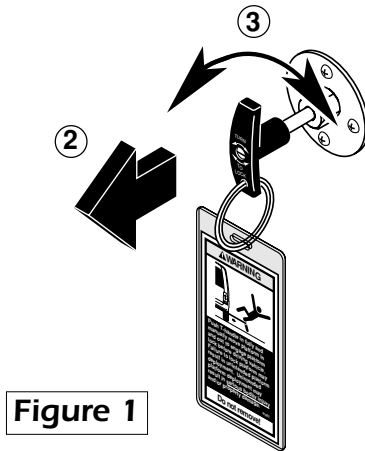

Figure 1
2. Pull “T” handle release cable. See Figure 1.
3. Turn “T” handle to lock platform in the released position. See Figure 1.